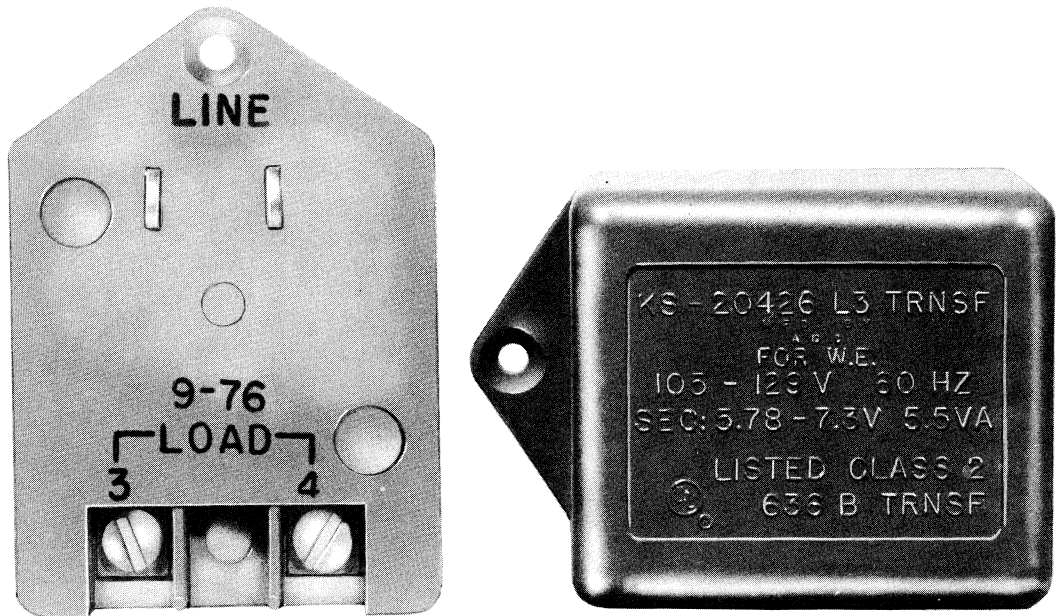

Fig. 14—KS-20426 Type (MD) Transformer Equipped With Molded Mounting Tab
5.03 Some transformers are provided with a mounting tab which is used to hold the transformer securely in the receptacle by using the outlet cover screw. See Fig. 14.
**Danger:** Do not use a KS-20426L3 (MD) transformer equipped with a mounting tab if ac outlet has a metal cover or if center cover mounting screw holds the duplex outlet in the box.